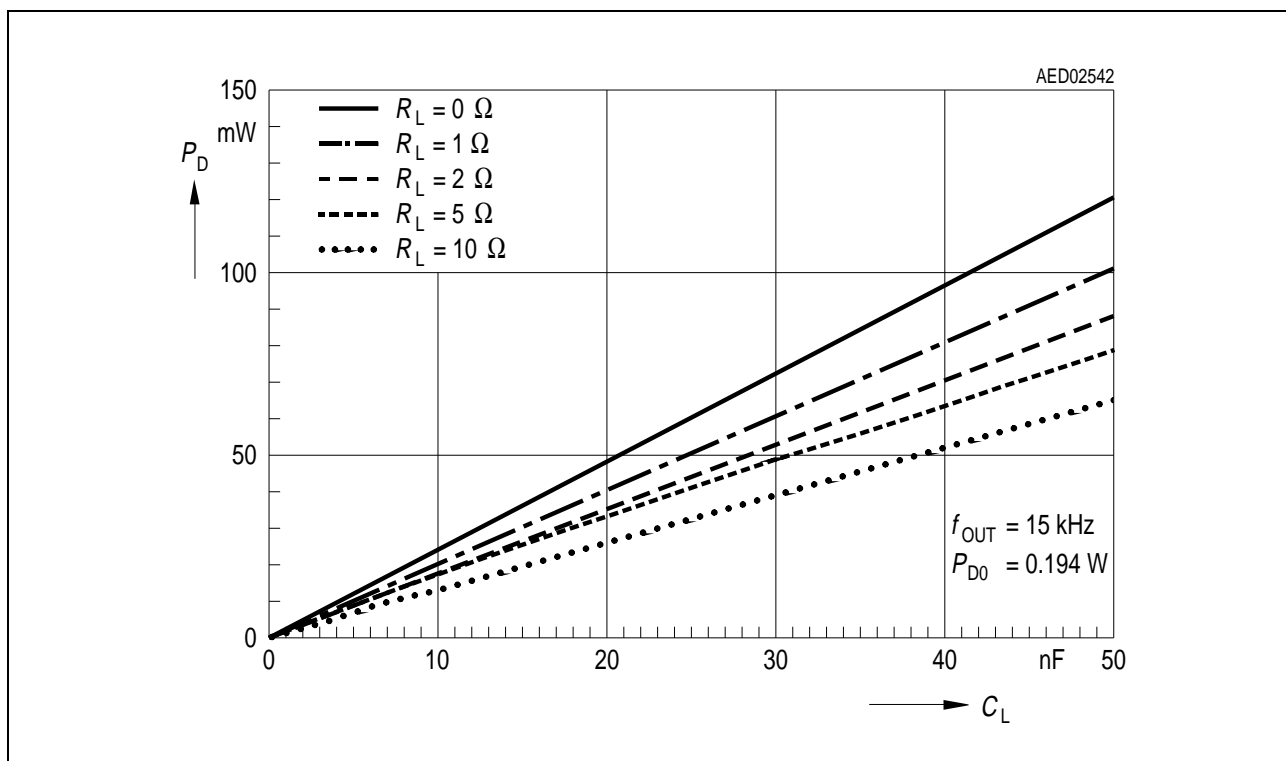
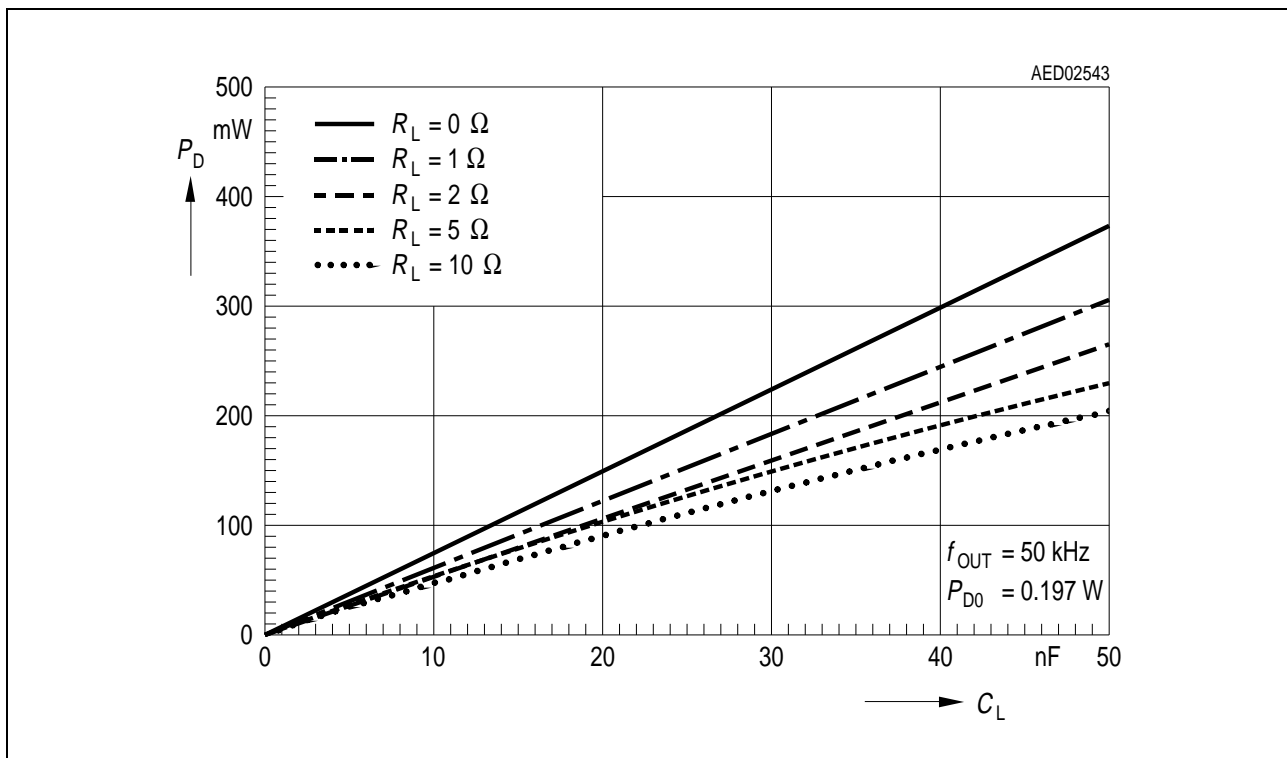
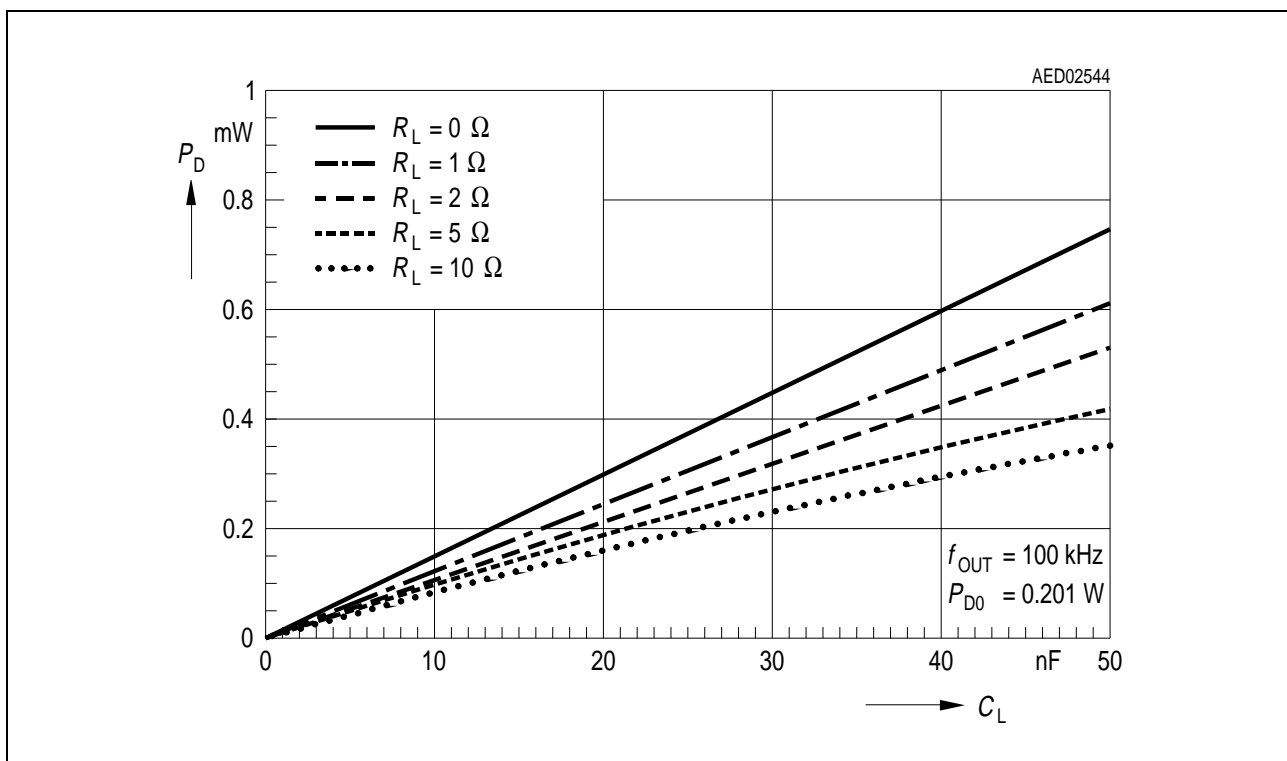
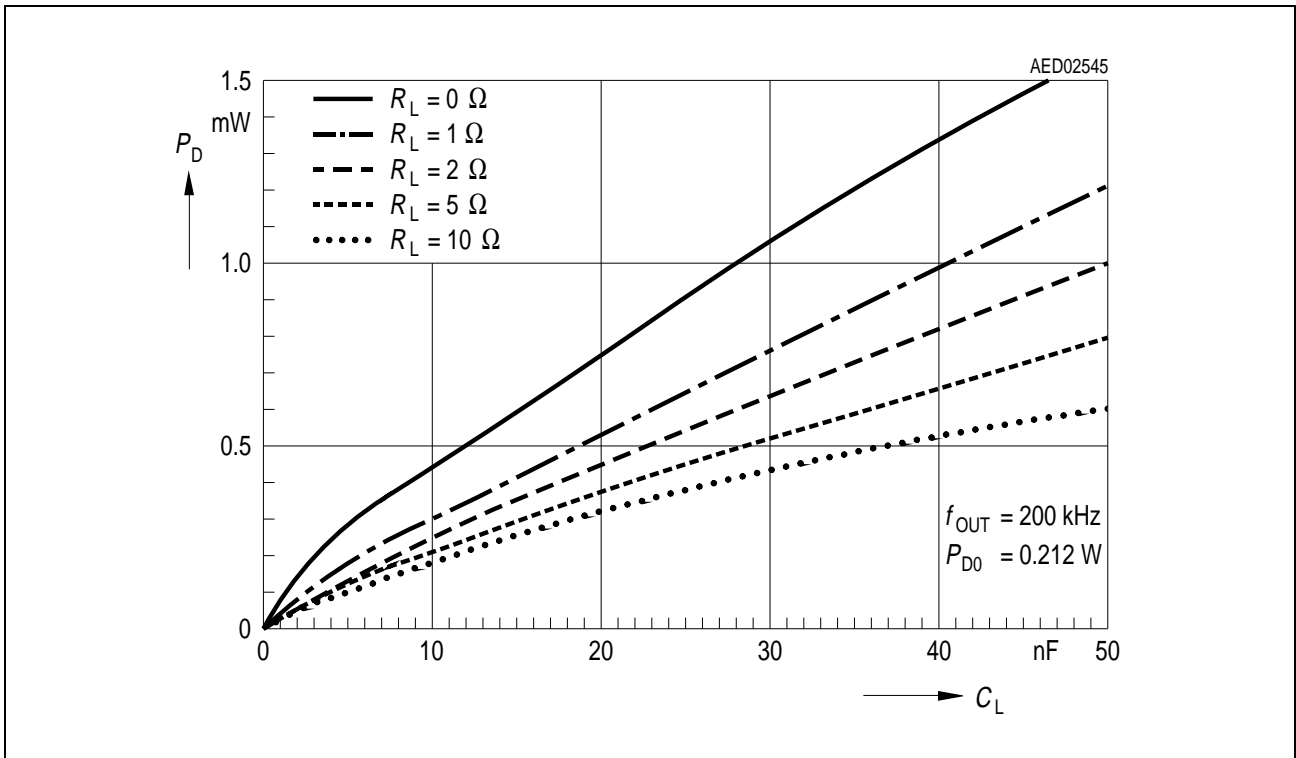

Figure 14 Power Dissipation of Single Gate Driver at $f_{OUT} = 15 \text{ kHz}$
Figure 15 Power Dissipation of Single Gate Driver at $f_{OUT} = 50 \text{ kHz}$
Figure 16 Power Dissipation of Single Gate Driver at $f_{OUT} = 100 \text{ kHz}$
Figure 17 Power Dissipation of Single Gate Driver at $f_{OUT} = 200 \text{ kHz}$
3) The gate driver's output performance is characterized in **Figure 14**, **Figure 15**, **Figure 16** and **Figure 17**.